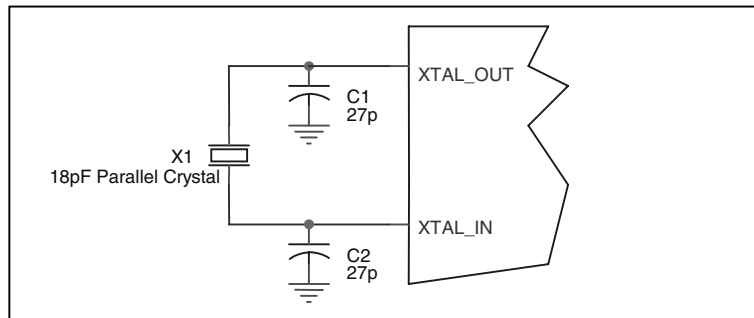

FIGURE 2. CRYSTAL INPUT INTERFACE
*Figure 2* below were determined using a  $14\text{MHz}$ ,  $18\text{pF}$  parallel resonant crystal and were chosen to minimize the ppm error.